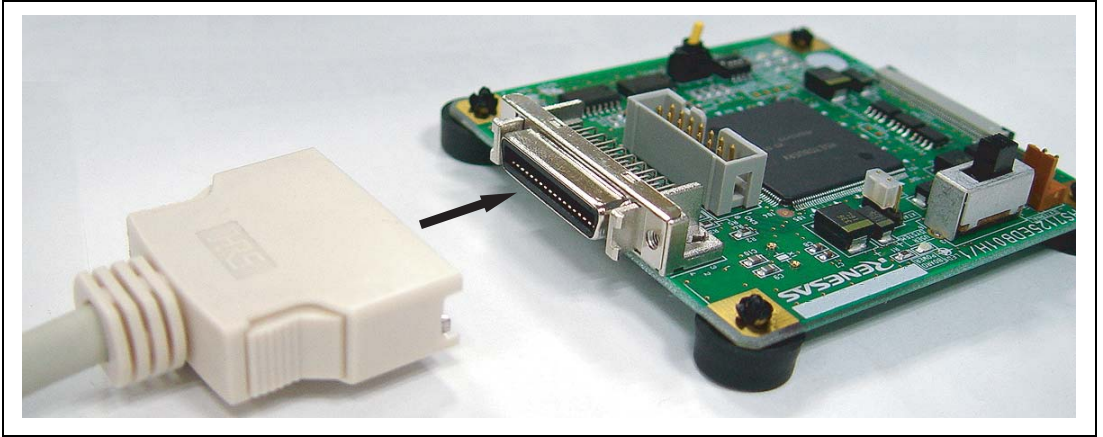

Figure 2.3 Connecting the User System Interface Cable (36 Pins) to the Debugging MCU Board
2. Connect the 14-pin or 36-pin connector of the user system interface cable to the H-UDI interface connector on the debugging MCU board as shown in figures 2.3 and 2.4. Connect the 36-pin or 14-pin connector to CN2 or CN3, respectively.